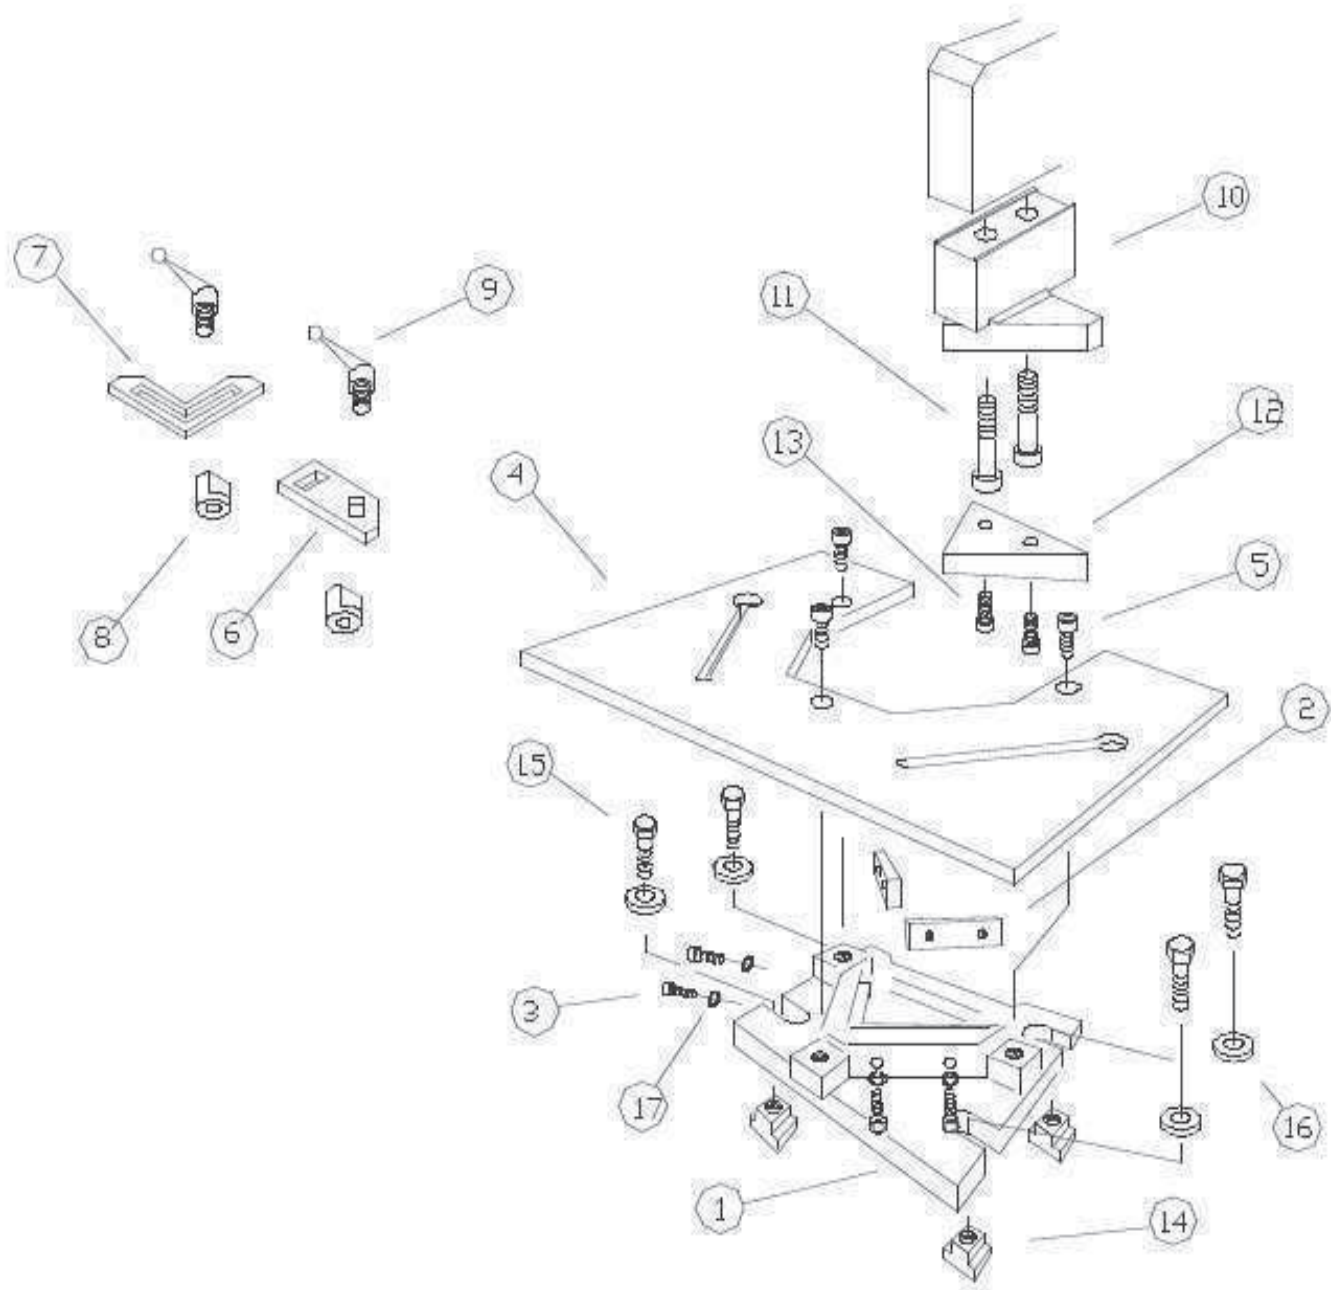

FIGURE 55
**SEE FIGURE 55 ON PAGE 117.**
**REFER TO FIGURE 55 ON PAGE 117.**